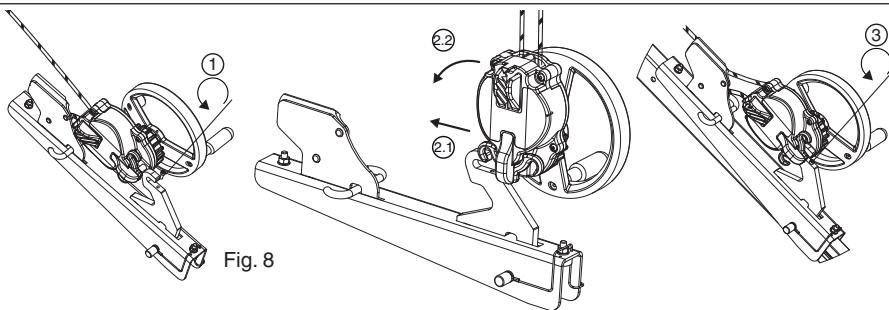

Fig. 8
### 6.3.4 DEROPE™ descender UP R (Figs. 8, 9 and 10)
The DEROPE™ UP R descender must be secured to the leg of the Tractel® TRACPODE™ as shown in Fig.8. Any other mounting position on any other point of the Tractel® TRACPODE™ is strictly prohibited.
2. Install the DEROPE™ UP R descender on the fastening hook (Fig. 8. 2.1 – 2.2).
3. Screw in the locking screw to prevent the unit from separating from its bracket (Fig.8, 3) and check that it is properly positioned and tightened.